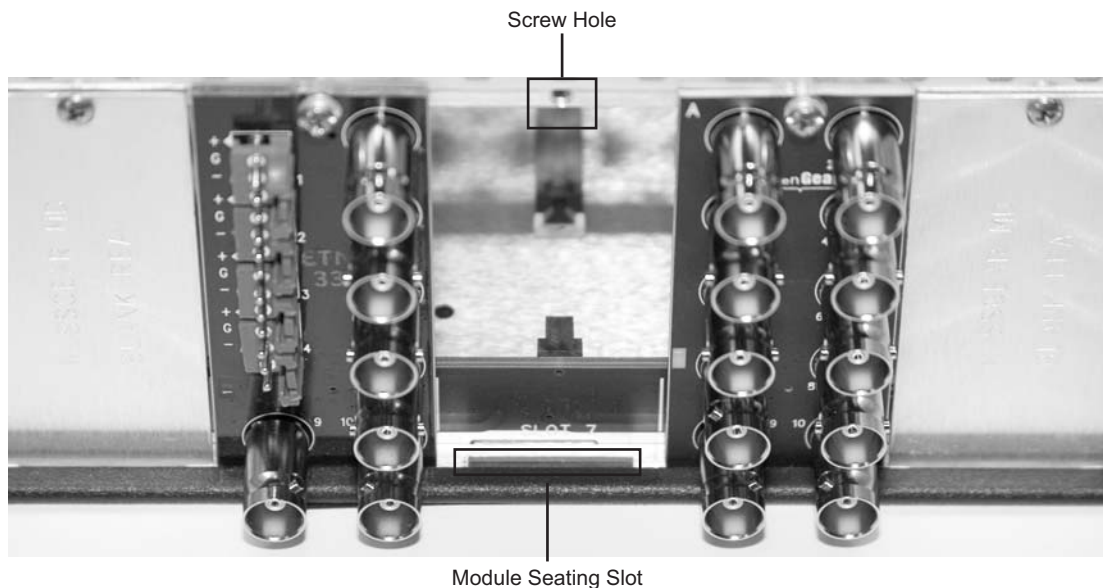

Figure 2.1 Rear Module Installation in a DFR-8300 Series Frame (TSI-100 not shown)
3. Install the bottom of the Rear Module in the **Module Seating Slot** at the base of the frame’s back plane. (**Figure 2.1**)